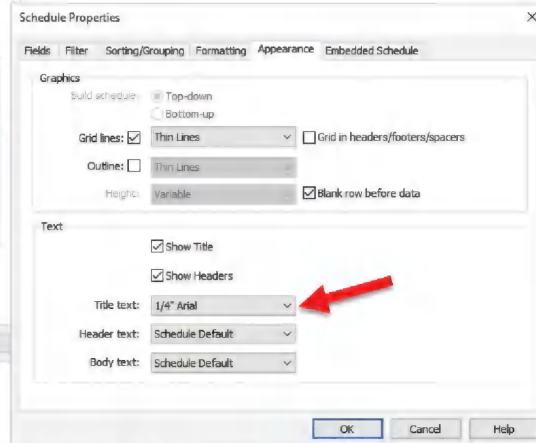

FIGURE 12-3.3
6. On the **Appearance** tab, select 1/4" **Arial** for the *Title Text* (Figure 12-3.3).